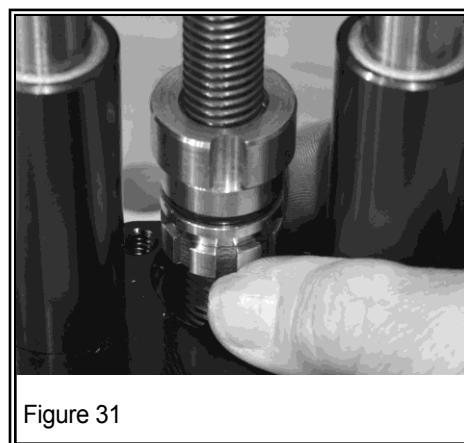

Figure 31
5. Rotate the carriage nut clockwise while applying light pressure to the O-ring. Ensure that when the adjustment is complete, the slot in the carriage nut aligns with a slot in the antibacklash nut (Figure 31).